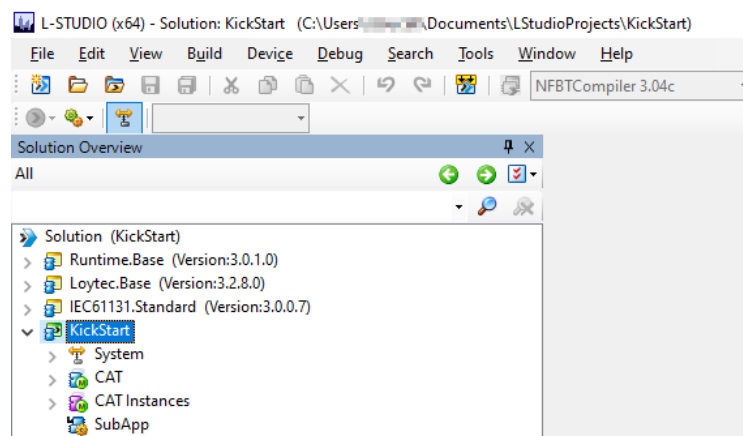

Figure 43: Blank L-STUDIO solution.
3. This create a blank solution named 'KickStart' as shown in Figure 43